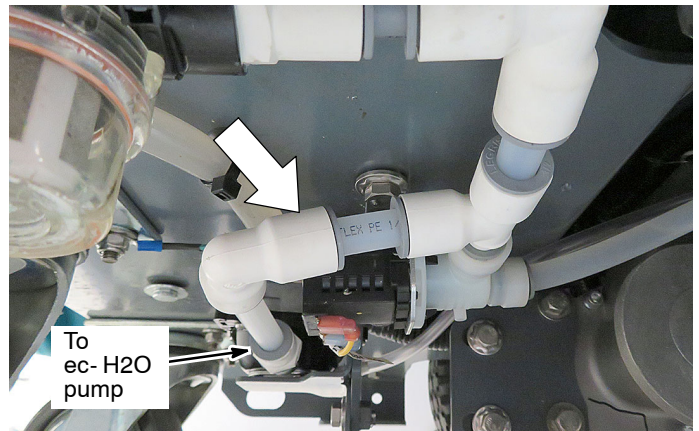

Fig. 28
27. Install the new solution hose assembly in place of the removed hose and connect hose to ec-H2O pump as shown (Figure 28).